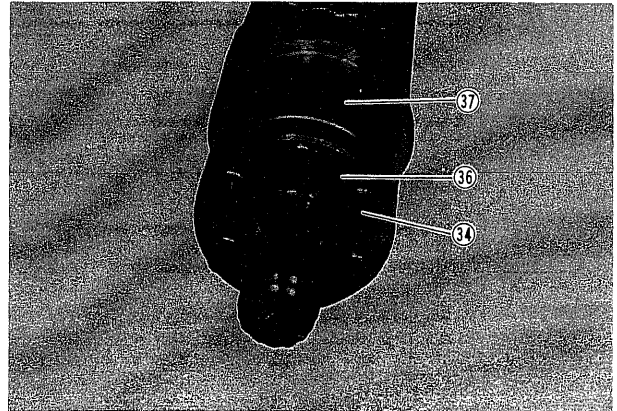

Fig. 91
- 1) Install flange (36) to eccentric shaft (37). Tighten securing bolts (34) to 12 kg-m. (SV91T) (Fig. 91)